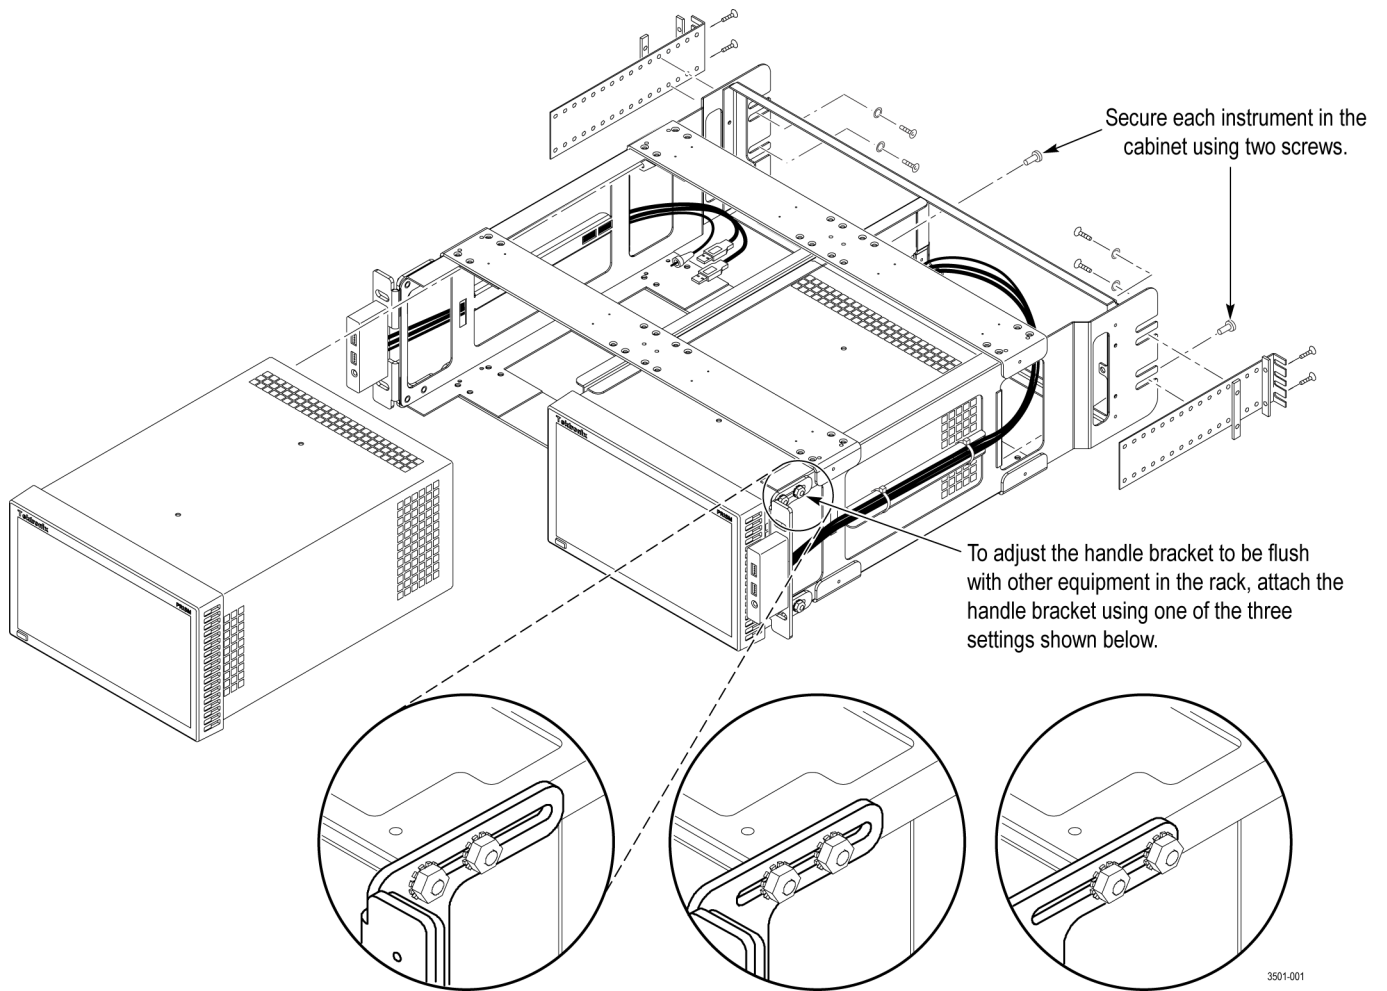
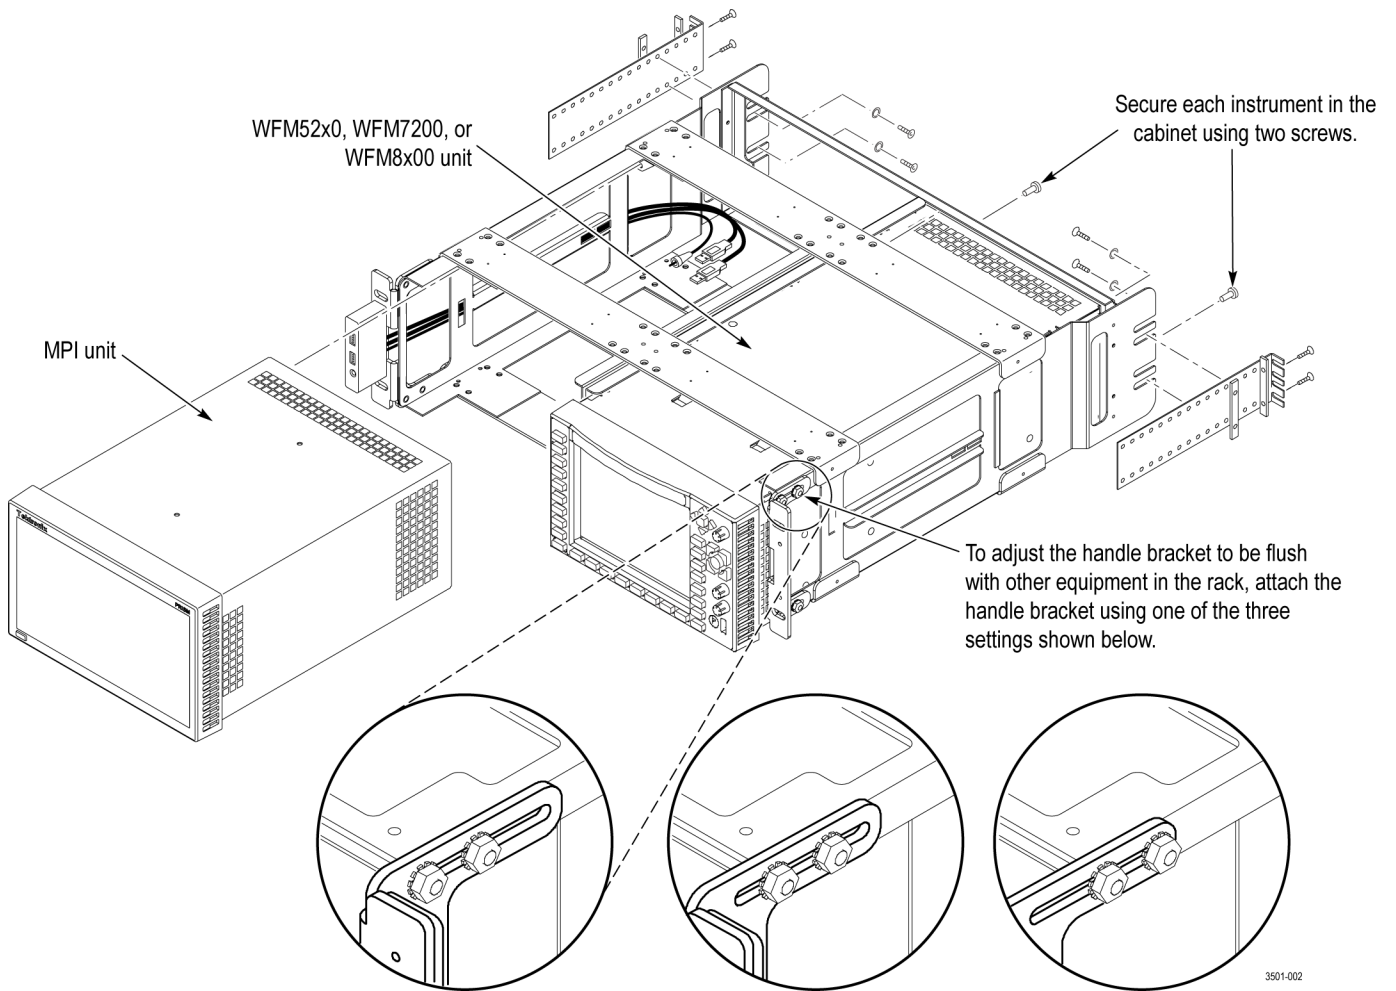

Figure 1: Installing two MPI monitors in the MPI-RACK-MM dual rack cabinet
Figure 2: Installing one MPI monitor and one waveform monitor in the MPI-RACK-MW dual rack cabinet
Before you install an instrument into the rack adapter, install the adapter into the rack as follows: (See Figure 1.)
1. Install an MPI unit in the dual rack cabinet: (See Figure 1.) (See Figure 2.)